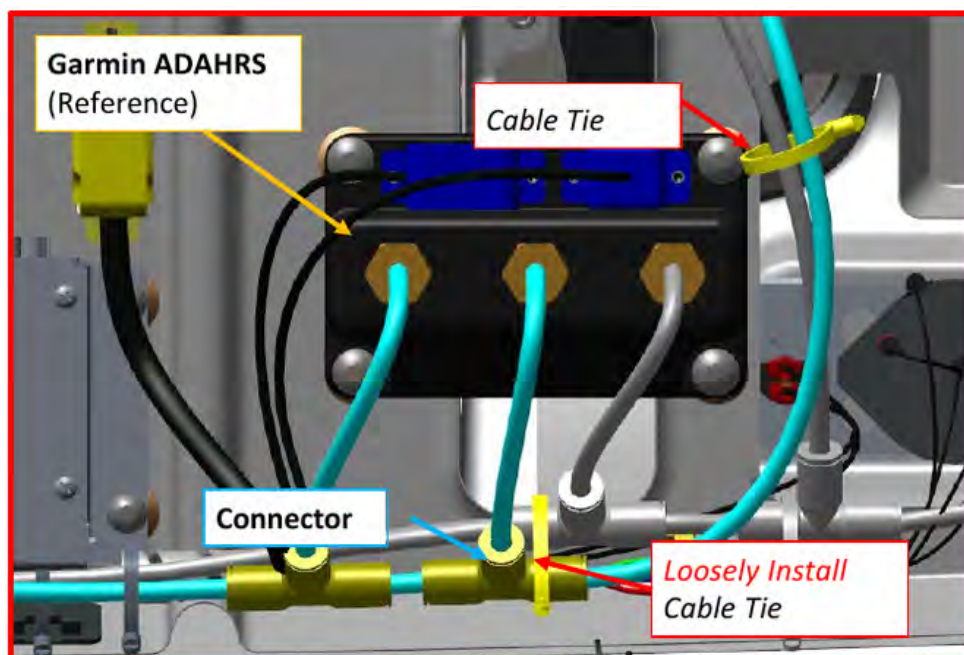

FIGURE 14-55
15. Cut cable tie to disconnect STATIC tubing from PITOT tubing. (See Figure 14-55.)